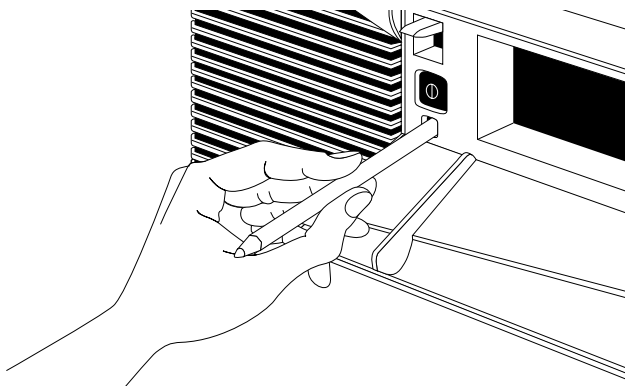

Figure 2-35 Power Switch and Reset Switch
2. If that doesn't work, use a pencil to press the reset switch, wait a few seconds, and then press the power button. See Figure 2-35.